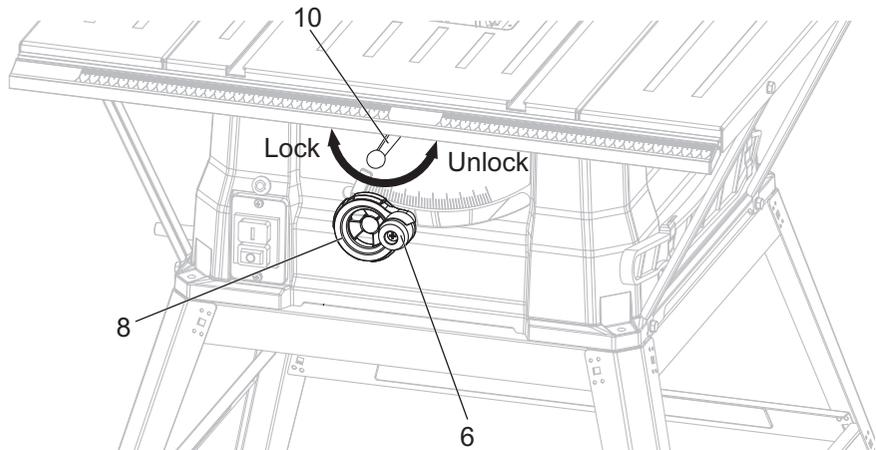

Fig. 25
> The bevel locking handle [10] locks the blade in the desired tilting angle. To loosen turn it anti-clockwise. When setting the angle of the cut fully loosen it. Before turning the table saw ON, be sure it is securely tightened so that the blade will not shift during the table saw operation. (See Fig. 25)
- > The saw blade can be adjusted steplessly between 0° and 45°. The bevel adjusting handwheel [8] is used to tilt the blade for bevel cutting. Loosen the bevel locking handle [10], then turn bevel adjusting handwheel clockwise to tilt toward the left and anti-clockwise to tilt toward the right. (See Fig. 25)
- > The height adjusting handle [6] is used to raise and lower the blade. Turn clockwise to lower the blade and anticlockwise to raise it. (Fig. 25)